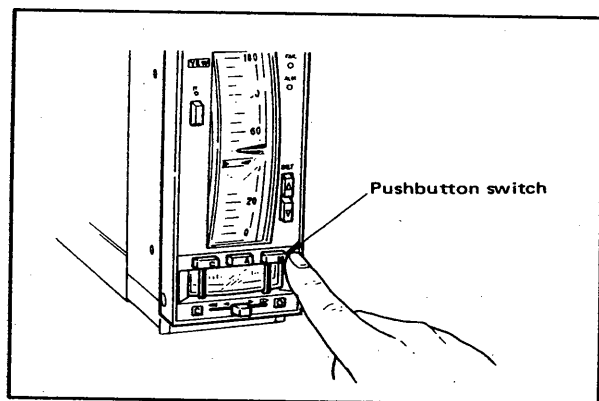

Figure 5-3-1. Selecting Manual Mode.
**5-3-1. Manual Startup.****(1) Manual operation with the manual operation lever**
- a. Press the **[M]** mode transfer switch. (Its built-in indicator lamp comes on.) (See Figure 5-3-1.)